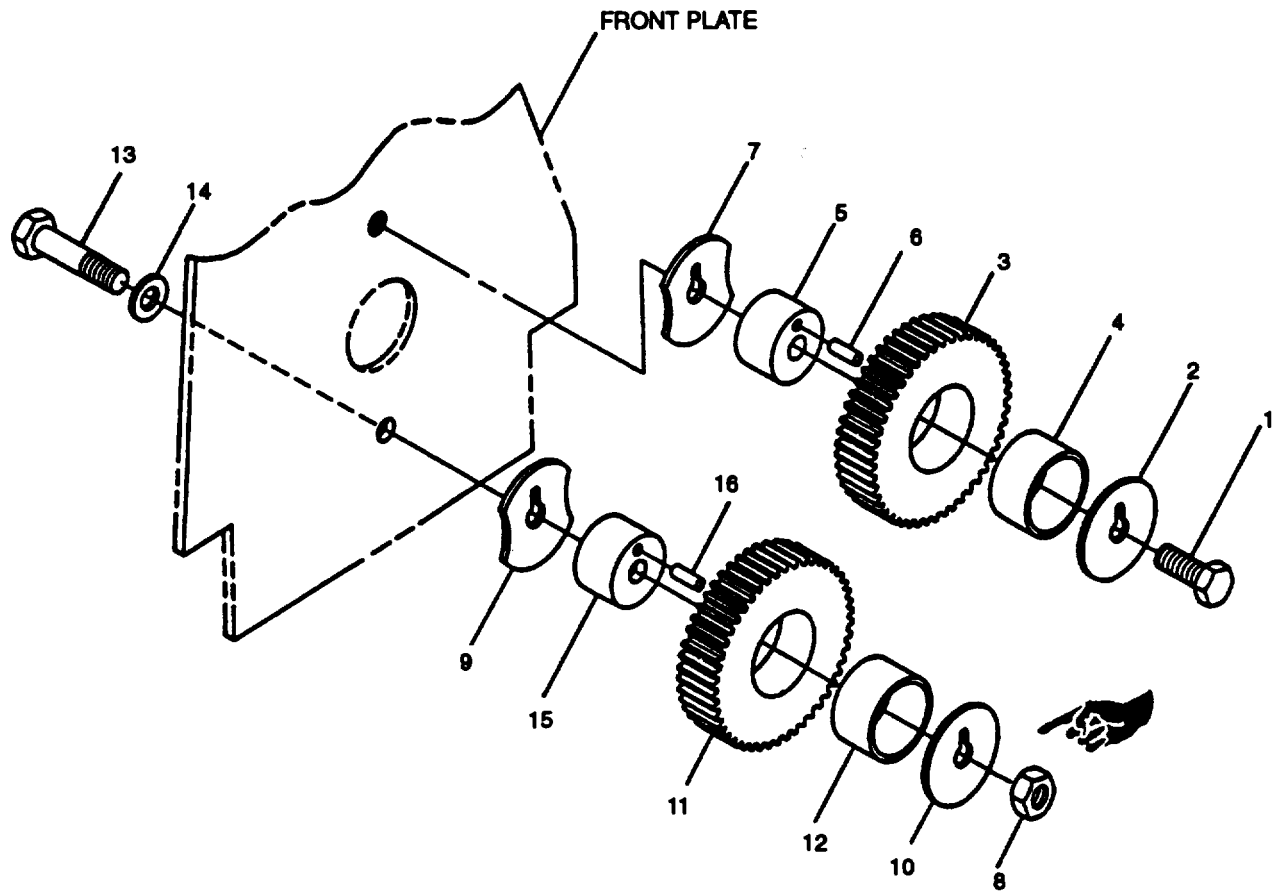
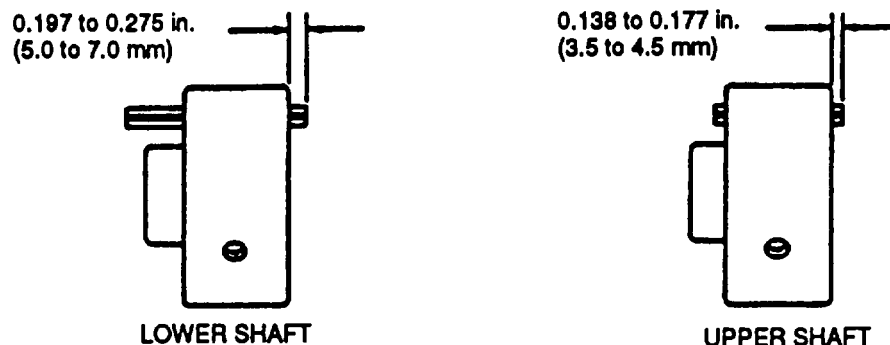

FIGURE 3-115. Idler Gears
FIGURE 3-116. Spring Pin Protrusion
- (3) Install upper idler gear (3, FIGURE 3-115) on its shaft without turning camshaft gear (5) or injection pump gear.
- (4) Install washer (2) so hole and spring pin align. Install capscrew (1). Tighten capscrew (1) to 65 ft-lbs (90 Nm).
- f. Remove bolt (1, FIGURE 3-115) and thrust washer (2) securing upper idler gear (3) to shaft (5); remove idler gear (3).
- g. Remove nut (8) and thrust washer (10) securing lower idler gear (11); remove idler gear (11).
- i. Remove bolt (13) and washer (14) from lower idler gear shaft (15).
- j. Remove lower idler gear shaft (15) from front plate by using a pry bar. Remove thrust washer (9).
- k. Remove upper idler gear shaft (5) from front plate by using a pry bar. Remove thrust washer (7).
- a. Install spring pins (6 and 16, FIGURE 3-115) with end of pin protruding as shown in FIGURE 3-116.
- b. Install upper thrust washer (7, FIGURE 3-115) and idler gear shaft (5) with spring pin (6) in notch. Drive shaft into front plate until thrust washer (7) is fully seated with oil hole facing up.
- c. Install lower thrust washer (9) and idler gear shaft (15) with spring pin (16) in notch. Drive shaft into front plate until thrust washer (9) is fully seated with oil hole facing up. Install capscrew (13) and washer (14) through rear of front plate and tighten capscrew to 70 ft-lbs (90 Nm).
Upper and lower idler gear sleeve bearings (4 and 12, FIGURE 3-115) have the same ID, but are different. Sleeve bearing with spiral oil groove goes in lower idler gear. Sleeve bearing without groove goes in upper idler gear (pressure lubed). Do not intermix sleeve bearings or premature sleeve bearing failure will result.